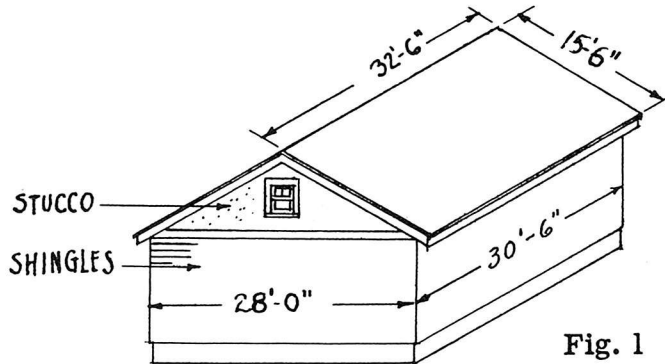

Fig. 1
1. Find the surface area of both sides of the gable roof shown in Figure 1.
2. If the walls are to be covered with shingles to a height of 11'-9", in Figure 1, what area is to be covered by these shingles if window and door openings are disregarded?